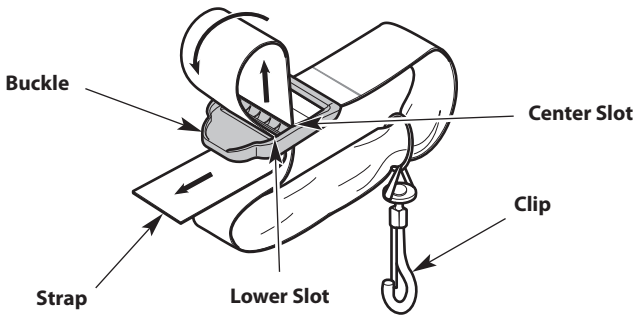

Fig. 10
1. Push the strap up through the center slot in the buckle (Fig. 10).
2. Bend the strap over and push it down through the lower slot in the buckle (Fig. 10).